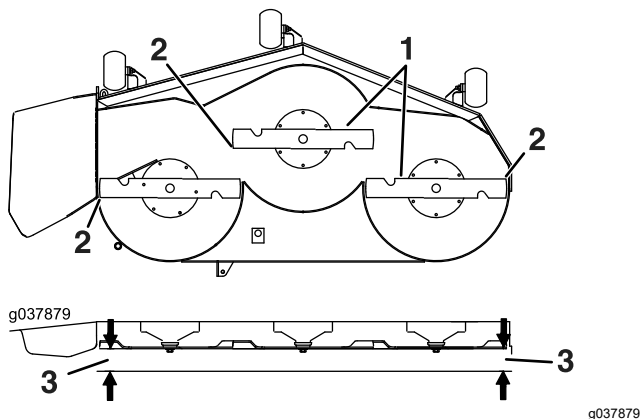

Figure 85
6. Measure between the blade tip and the flat surface (Figure 85). If both measurements are not within 5 mm (3/16 inch), adjust the leveling; continue with this procedure.
14. Carefully rotate the blades side to side (Figure 85).